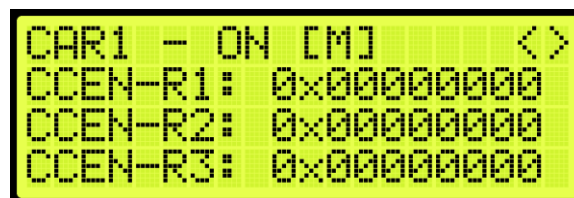

Figure 279: Rear Car Call Enable Bitmap Status Menu
16. From the Rear Car Call Enable Bitmap Status (See Figure 279), press the right button.